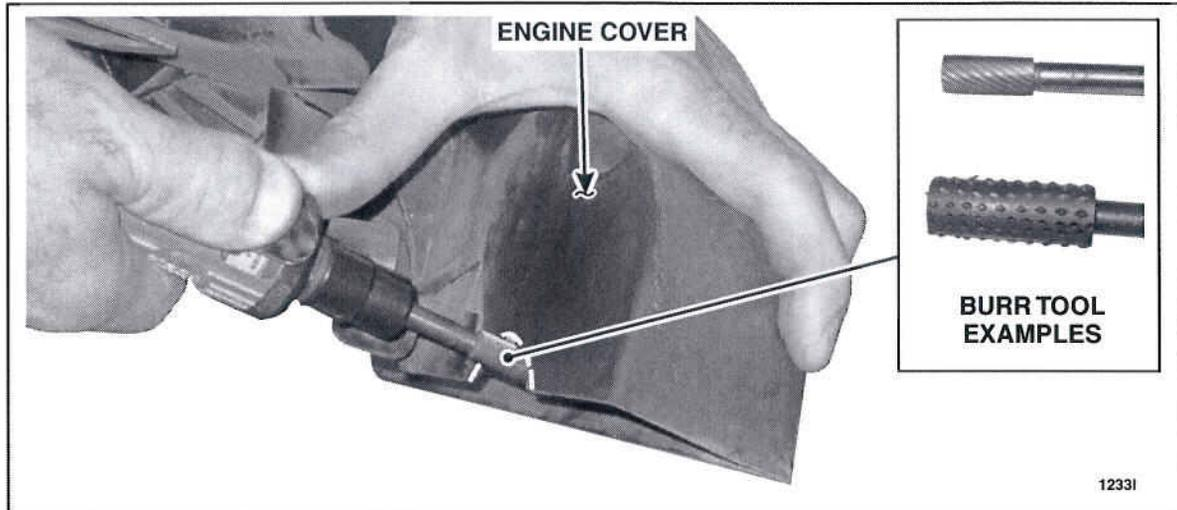

FIGURE 4
- Using a rotary burr tool, modify the engine cover by increasing the opening over the drive belt tensioner to the previously made guide line. See Figure 4.